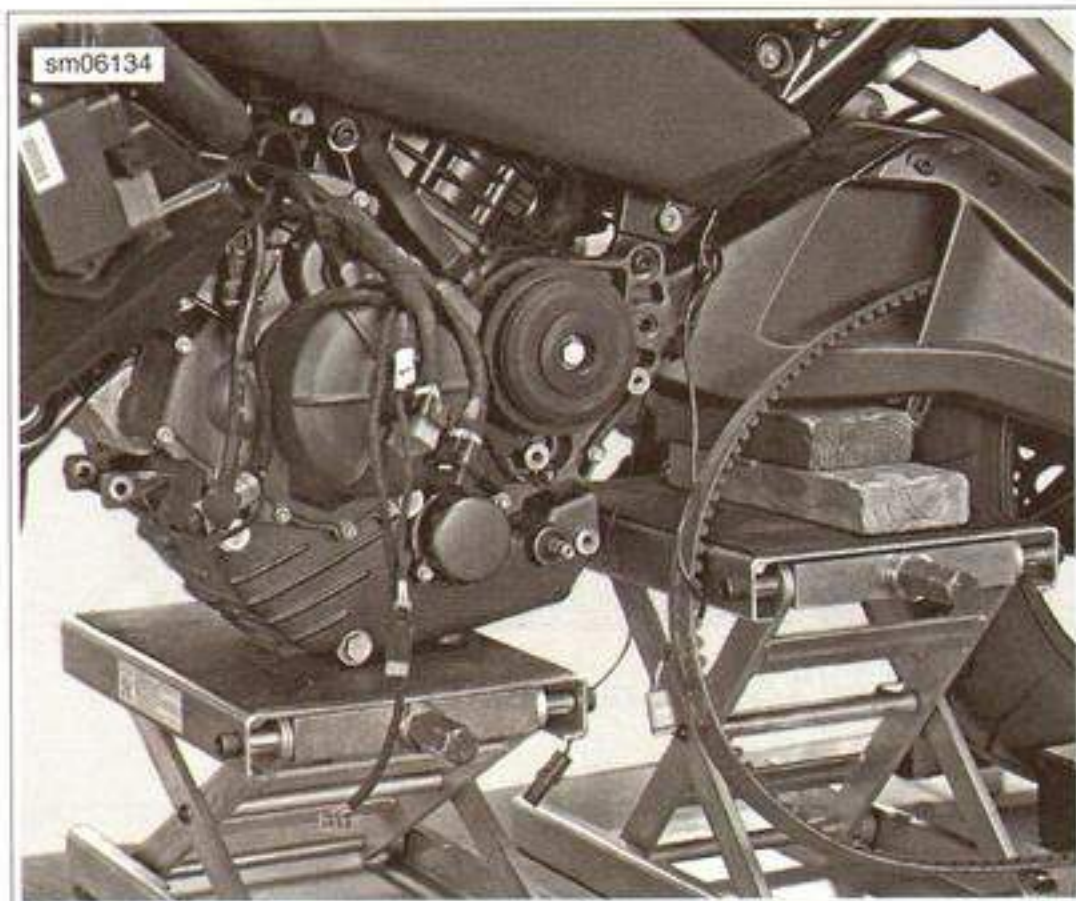

Figure 3-38. Support Engine and Swingarm
8. See Figure 3-38. Place scissor jacks under engine and swingarm pivot as required.